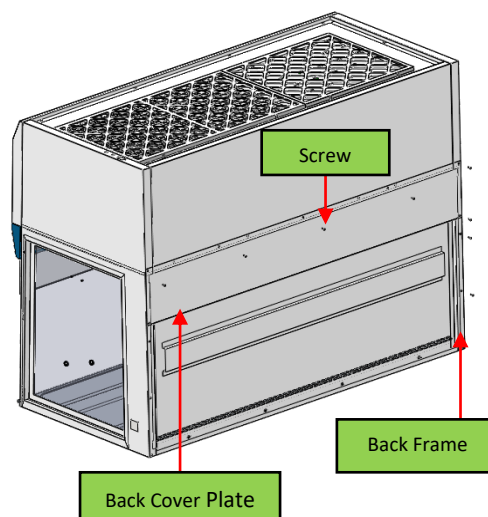

Fig. 1.7.1
- Dismantle the back cover plate and frame using Screwdriver M5. (Fig. 1.7.1)